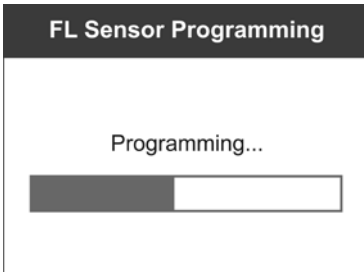
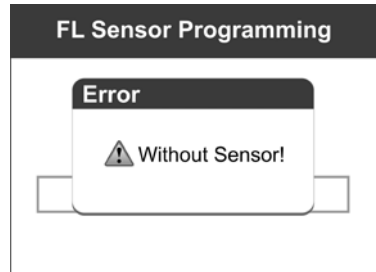

Figure 5.10
Figure 5.11
- 10) Press the **Y** button to write in the new created sensor ID to the MX-Sensor, and the screen will show as below (Figure 5.10), or the **N** button to exit without change. If an error prompt displays as below (Figure 5.11), please try another type of MX-Sensor, for the type of the inserted MX-sensor may be incorrect.